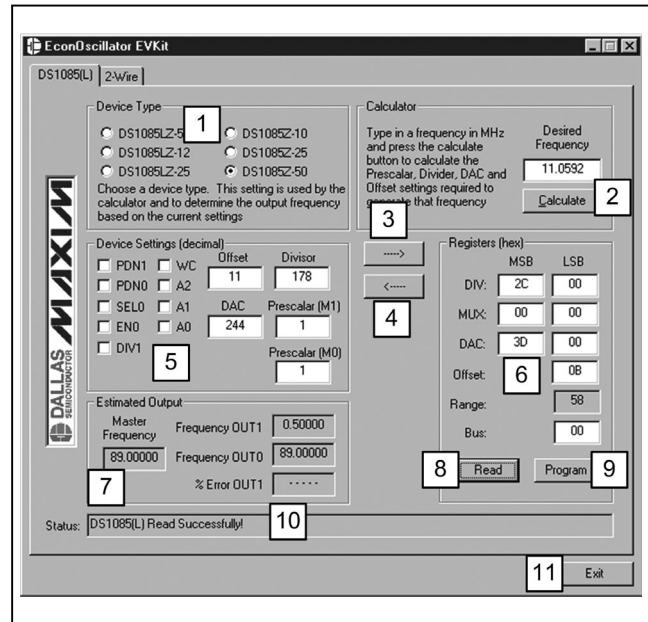
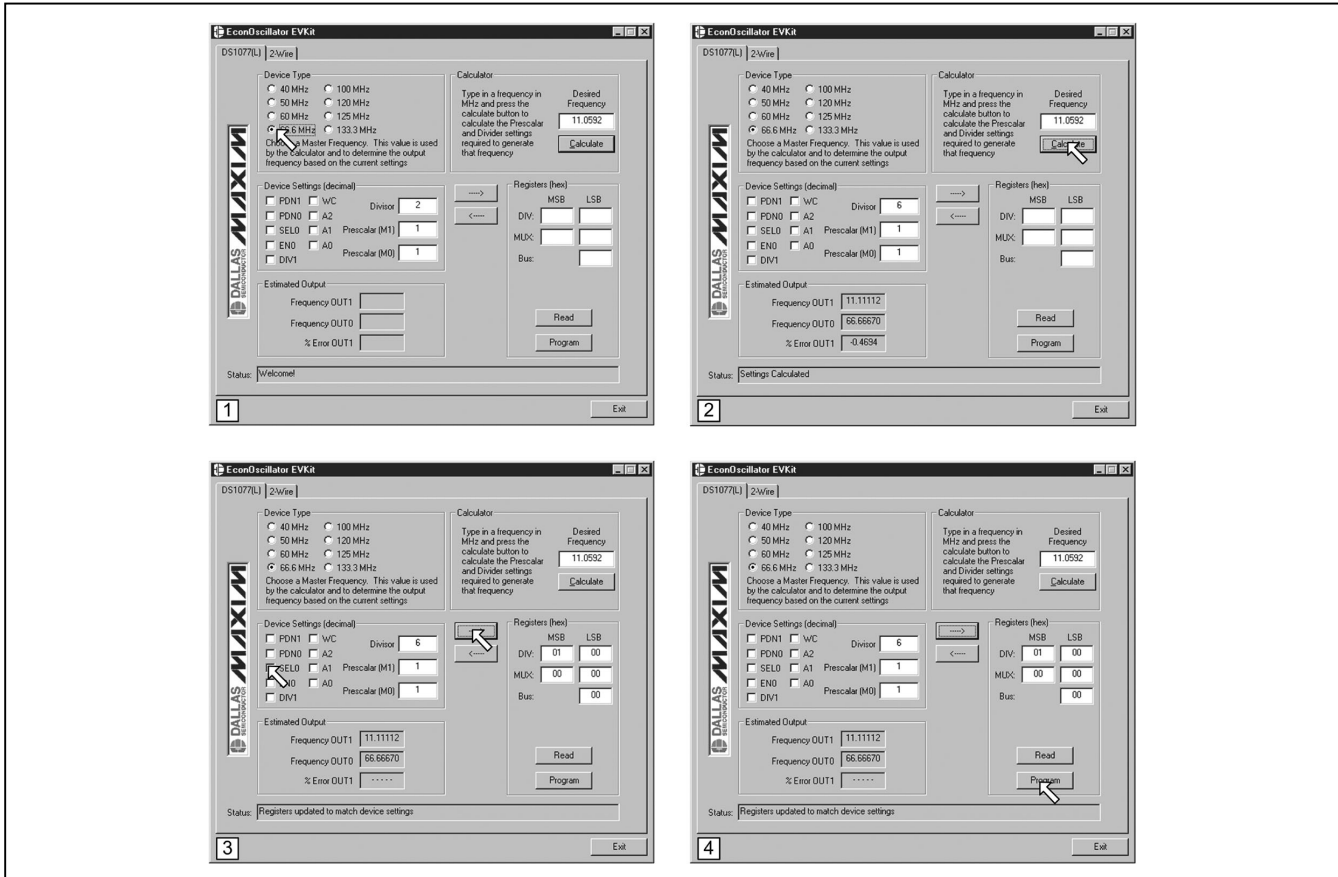

Figure 4. Software Description
Figure 5. Typical Programming Sequence
After the base part number is selected, the software (Figure 4) utilizes a simple graphical interface that allows the user to calculate their device settings, enter the decimal settings in manually, or directly enter the hexadecimal register values to program into the devices. The software for all the device types except the DS1087(L) have the same basic program flow described by Figure 5. Because the DS1087(L) has so few programming options the software only supports the hexadecimal register section of the software.
The items highlighted in Figure 4 are described below.
Screen shots of a typical programming sequence are shown in Figure 5. First select the specific device type and then enter the desired frequency and press the Calculate button. Next, change the non-frequency related device settings and press the \rightarrow button. Finally, press the Program button to program the part.